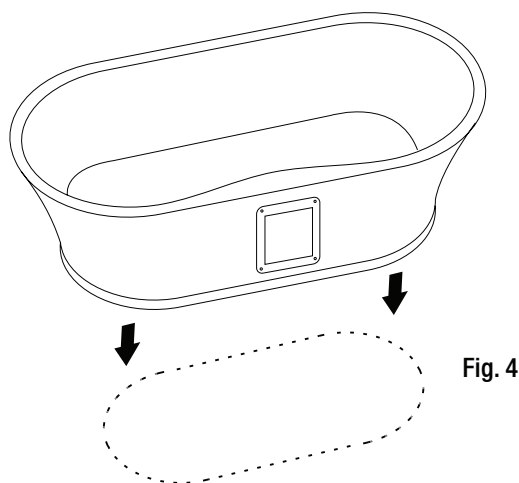

Fig. 4
- Carefully right the tub and move into its final position. Using a non-permanent marker, trace the lower perimeter of the tub below the access panel area, see Fig. 4.